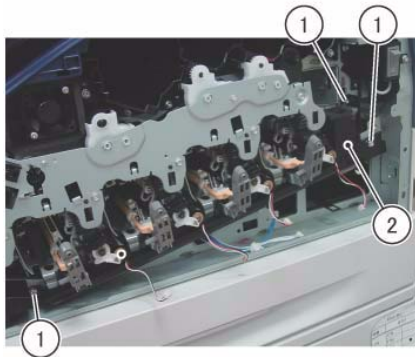

Figure 7 Remove the Waste Toner Pipe Assembly
11. Remove the Waste Toner Pipe Assembly. (Figure 7)